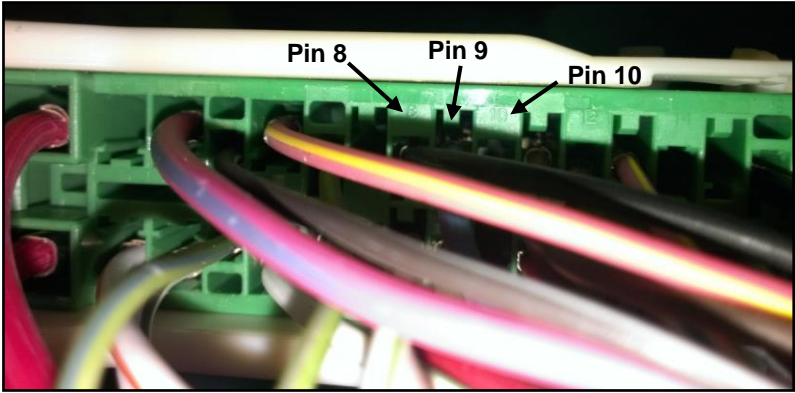

**Figure 10.6**
- The connector will pull out of the fuse box (Figure 10.6).